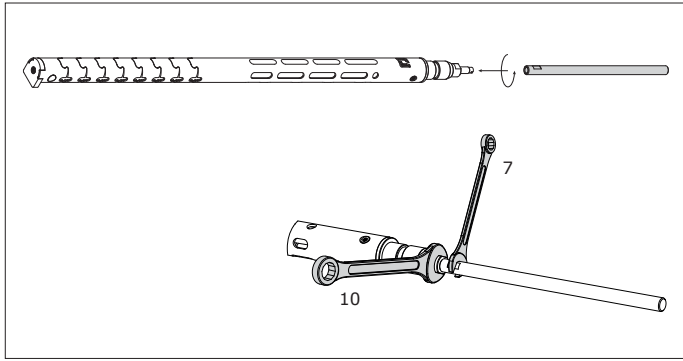

Fig. 4.2 Mounting the pull rod
- Screw the pull rod onto the beak. Hold wrench 10 and rotate/tighten the pull rod with wrench 7. Refer to fig. 4.2.